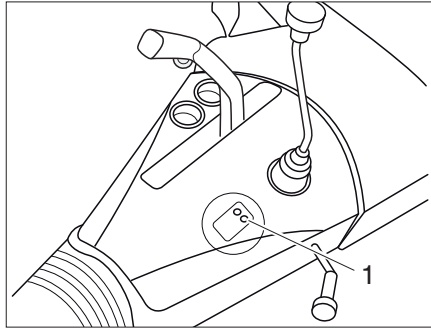

Fig. 3 LED of the ATC (AL-KO Trailer Control)
- Plug the plug of the ATC in at the tow coupling. A self-test is carried out, the LED (Fig. 3,1) lights up red.
- After the self-test the LED (Fig. 3,1) lights up green, the ATC is active. If the LED does not light up green, the ATC does not function correctly. See the following table.